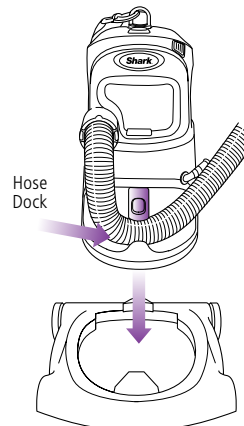
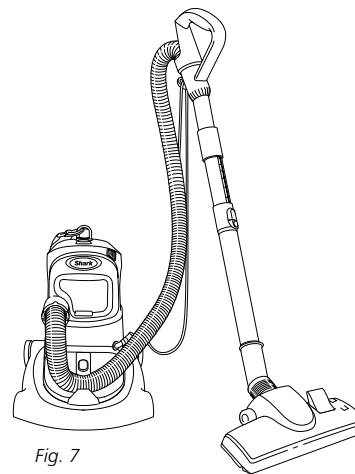

Fig. 6
Fig. 7
- 6 Place the hose in the hose dock. (**fig. 6**)
- 7 Place the unit over the caddy and press down until it locks into place. (**fig. 6, fig. 7**)